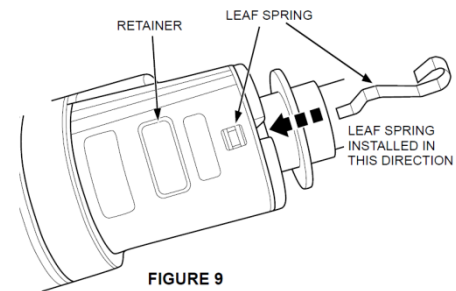

FIGURE 9
14. Insert the retainer in the case cavity on the case (refer to figure 9)